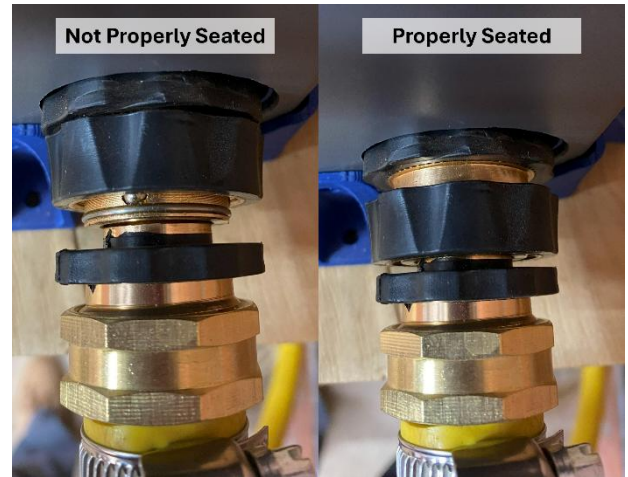

Figure 3-3 Quick Disconnect Seating
- a. The quick release must be pushed in as shown, then the hose end can be inserted. Ensure that the quick release fitting pops back to its original location (see Figure 3-3).